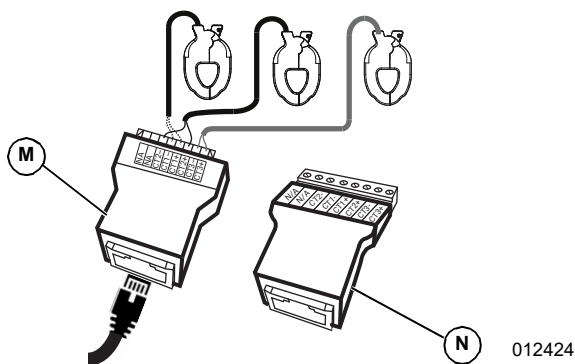

Figure 5-15. RJ-45 Breakout Adapter
1. See Figure 5-15. Connect CT leads to RJ-45 Breakout Adapters with push terminals (M) or screw terminals (N) according to the label on the breakout adapter.